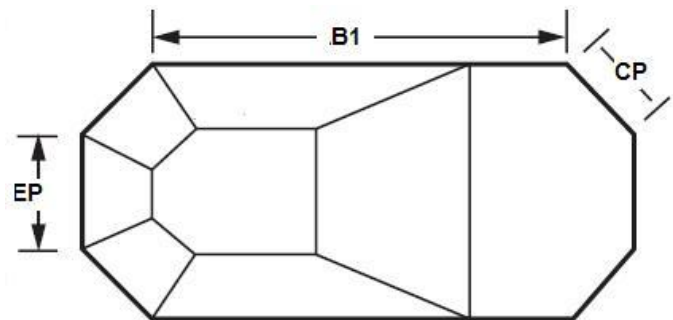

Figure 3
GRECIAN pools require additional dimensions around the perimeter of the pool. These include the panels at the end of the pool as well as the length of the straight all on the side of the pool additional length dimensions. Refer to the diagram (Figure 3), measure (CP), (EP) and (B1). Follow the directions for Width and Length in Step#2.